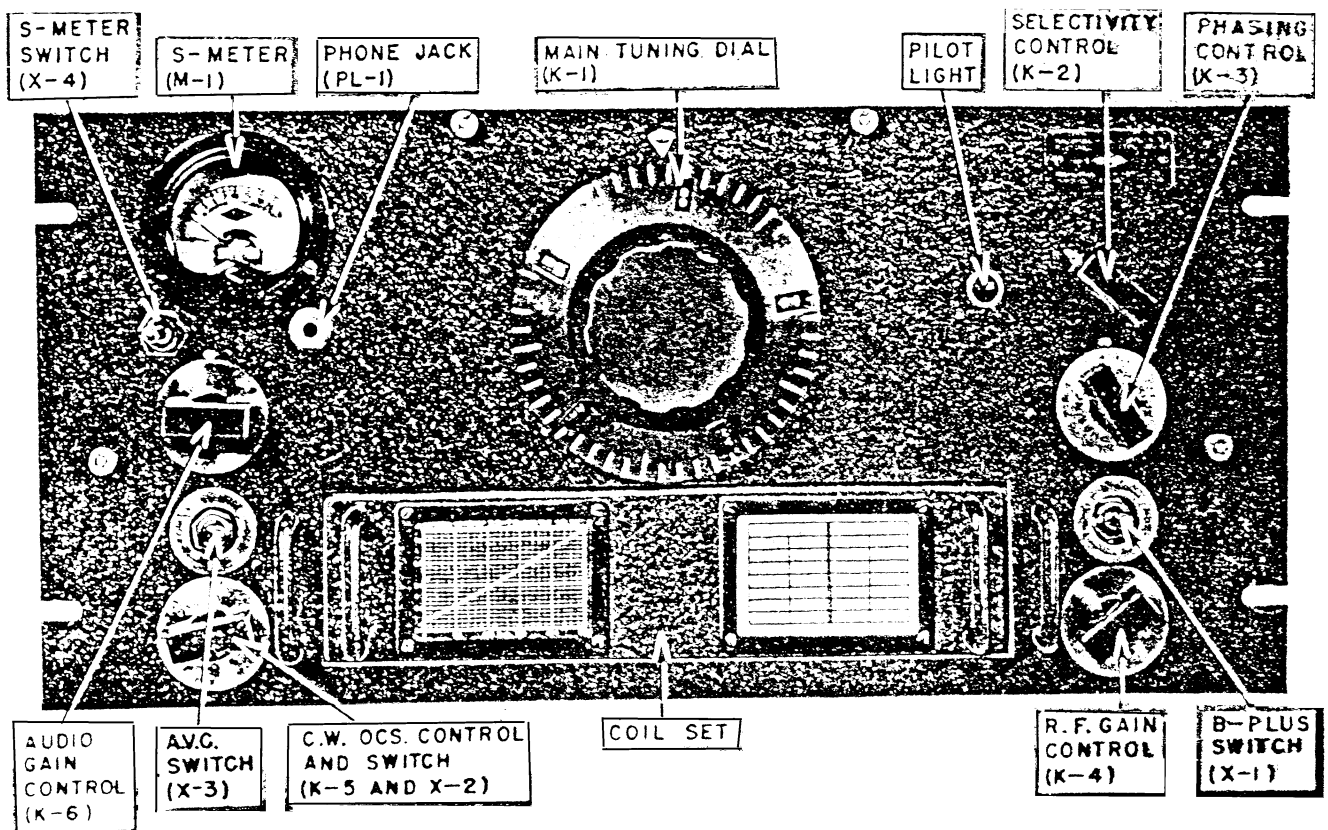

Figure 23. Front panel controls.
12. Front Panel Controls (fig. 23)